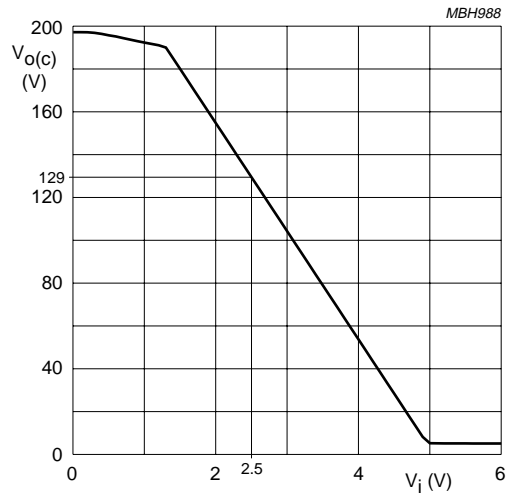

Fig.5 Typical DC-to-DC transfer of  $V_i$  to  $V_{O(c)}$ .
1. See also Fig.5 for the typical DC-to-DC transfer of  $V_i$  to  $V_{o(c)}$ .